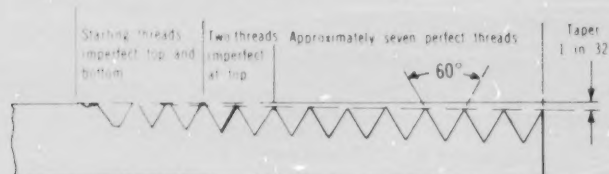

Figure 1-23. National Pipe Thread (NPT)
b) Figure 1-23 shows a typical NPT.